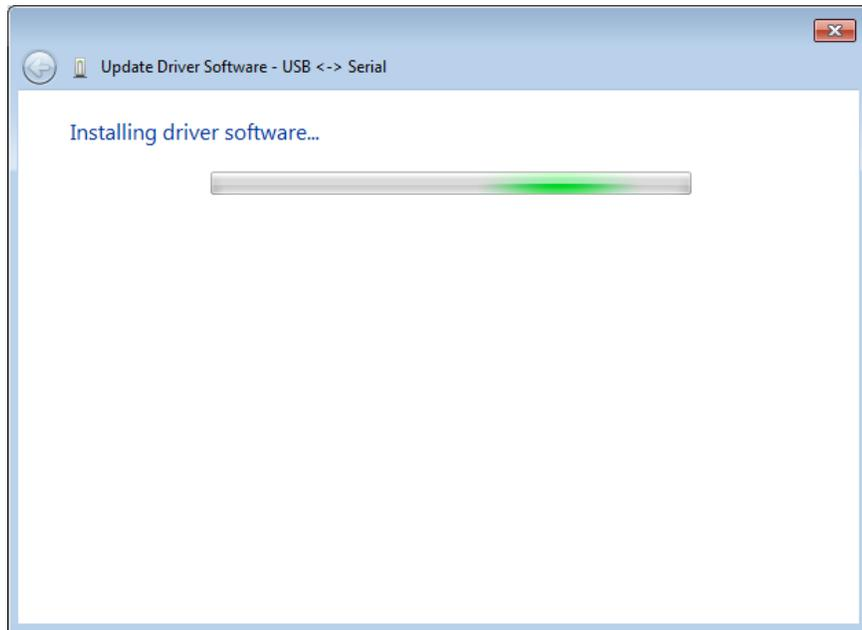

Figure 9 – Driver Installation Step-by-Step – Installing the driver
- 6th step: The driver will be installed. See Figure 9.